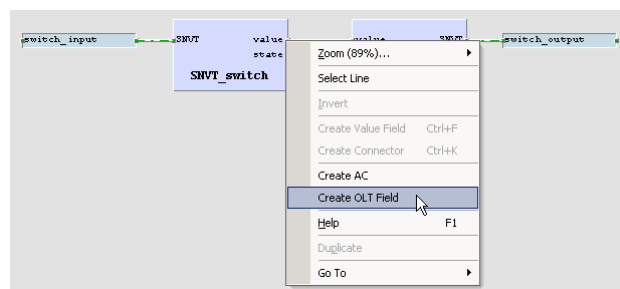

Figure 21: Create online test fields
12. For later debugging, it is good practice to add online test fields to the drawing, to display the current value of the signals during online test. To do this, right-click on the value output of the left function block and select **Create OLT Field** from the context menu, as shown in Figure 21.